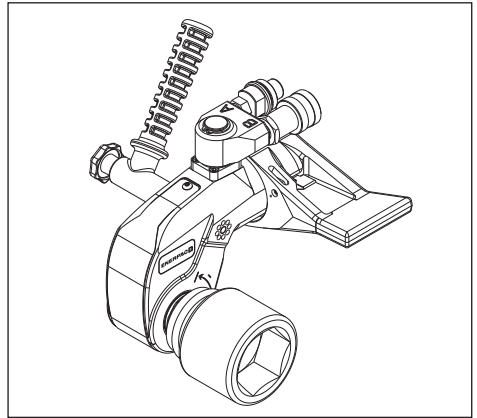

Fig. 8
4.3.1 Tightening a Nut or Bolt (Fig. 8 and 9)
- Install the reaction arm (6) on the wrench, in the position required for your application
- Position the foot (17) of the reaction arm (6) against a suitable reaction point (18). The reaction point will counteract the force caused by operating the tool.